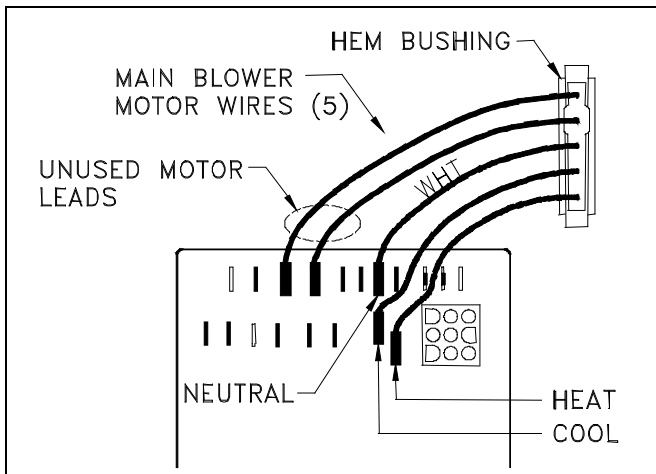

Figure 22. Main Blower Speed Selection.
- To change cooling speed, move desired motor lead to terminal marked 'COOL' on Fan Timer. See Figure 22. Initial factory setting for cooling is high speed (black wire).
- To change heating speed, move desired motor lead to terminal marked 'HEAT' on Fan Timer. See Figure 22. Factory setting for heating is listed in Table 9. Heating speed should not be reduced below factory setting.
- Connect two unused motor leads to terminals marked "UNUSED MOTOR LEADS" on Fan Timer. See Figure 22.